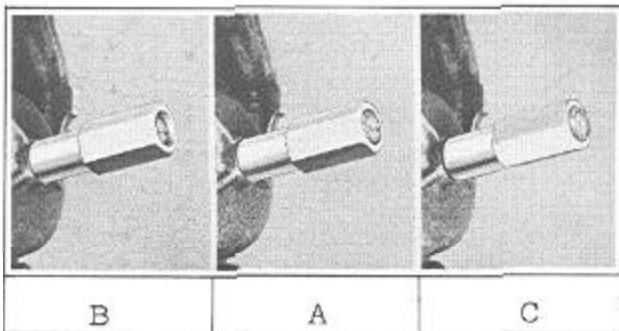

FIGURE 145
3. If, in screwing the tool into position, the indicator plug becomes flush with the end of the tool before the tool shoulder is against the servo cylinder screw boss, (C), Figure 145, the band adjustment is too tight;
4. The band is properly adjusted when the indicator plug is flush with the end of the tool handle and when the tool shoulder rests against the servo cylinder screw boss, (A), Figure 145.
5. If the band adjusting tool is fully in place and the indicator plug is not flush with the end of the tool handle (B), Figure 145, loosen the lock nut on the band adjusting screw and turn the band adjusting screw in until the indicator plug in the tool handle is flush with the end of the handle (A).